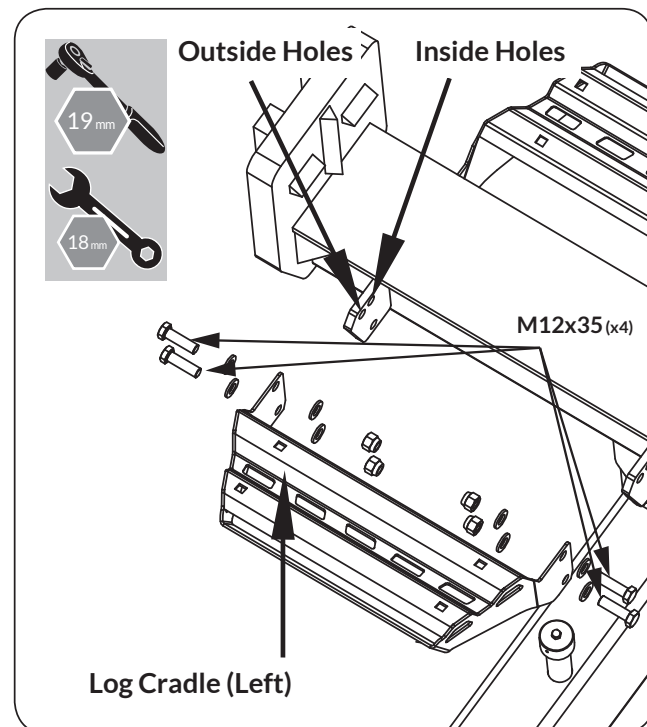

Figure 10b
2. Align the holes on the left log cradle to the inside and lower holes on the beam mounts. Insert the M12x35 bolts, flat washers, and nuts and securely tighten. (See Figure 10b)